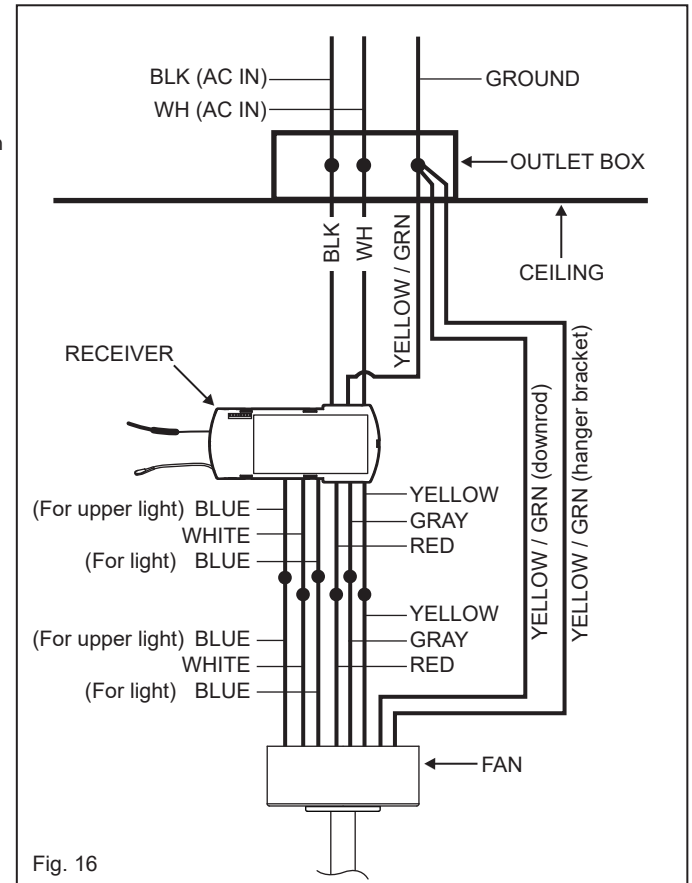

Fig. 16
2. Make wire connections from the fan to the receiver unit. For this step use the bundle of 6 wires on the receiver. (Fig. 16)